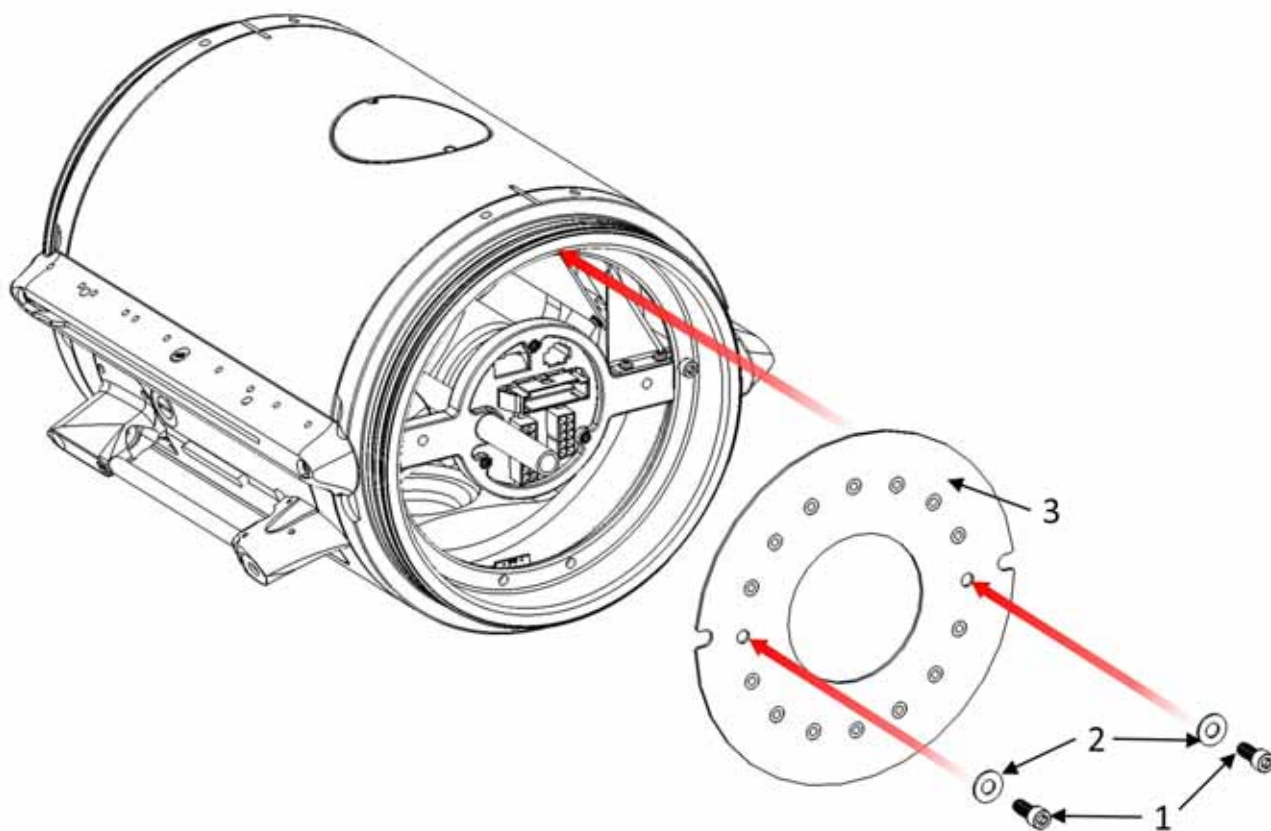

Figure 2-19 Payload bay assembly.
1. Remove the forward payload bay guard plate from the payload bay by removing the two screws (Figure 2-19, Item 1) and the two washers (Figure 2-19, Item 2).
2. Remove the payload bay guard plate (Figure 2-19, Item 3).
1. Insert the payload bay guard plate (Figure 2-19, Item 3) into the forward opening of the payload bay.
2. Secure the payload bay guard plate by installing the two washers (Figure 2-19, Item 2) and the two screws (Figure 2-19, Item 1) into the payload bay guard plate.